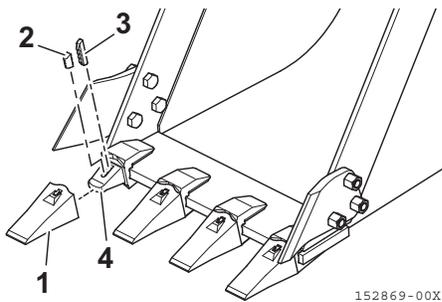
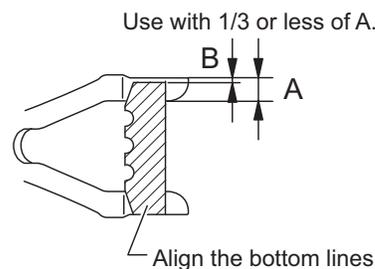

Fig. 8-23
Fig. 8-26
Replace the teeth before the point (Fig. 8-23, 1) is worn to the adapter (Fig. 8-23, 4).
2. Strike out the locking pin (Fig. 8-23, 3) installed on the bucket with a hammer and punch to remove the point (Fig. 8-23, 1).
Do not strike the punch toward the rubber pin lock (Fig. 8-23, 2). Otherwise the rubber pin lock (Fig. 8-23, 2) may be damaged. Strike the tool toward the back of the pin.
3. Remove the rubber pin lock (Fig. 8-23, 2).
4. Check the removed rubber pin lock (Fig. 8-23, 2) and locking pin (Fig. 8-23, 3).
Using the rubber pin lock (Fig. 8-23, 2) and locking pin (Fig. 8-23, 3) in the conditions below may cause the point (Fig. 8-23, 1) to come off during operation. Replace the applicable part with a new one.
- There is a crack in the rubber of the rubber pin lock (Fig. 8-23, 2) and the roller may come off.
- With the lower side of the locking pin (Fig. 8-23, 3) aligned with the point bottom line, the dimension (Fig. 8-26, B) is equal to or more than 1/3 of the dimension (Fig. 8-26, A).
5. Clean the surface of adapter (**Fig. 8-23, 4**) with a tool such as a putty knife to remove the hard mud fixed on it.
6. Push the rubber pin lock (**Fig. 8-23, 2**) into the hole on the adapter (**Fig. 8-23, 4**) by hand or by a hammer.
Do not let the rubber pin lock (Fig. 8-23, 2**) come out of the adapter (**Fig. 8-23, 4**) surface.**
7. Install the point (**Fig. 8-23, 1**) to the adapter (**Fig. 8-23, 4**) and check that the rear surface of the pin hole on the point (**Fig. 8-23, 1**) is almost aligned with the rear surface of the pin hole on the adapter (**Fig. 8-23, 4**) when the point (**Fig. 8-23, 1**) is pushed strongly onto the adapter (**Fig. 8-23, 4**).
8. Insert the locking pin (**Fig. 8-23, 3**) into the pin hole on the point (**Fig. 8-23, 1**) and strike it so that the upper end of the locking pin (**Fig. 8-23, 3**) will be flush with the surface of the point.
- Replace the rubber pin lock (**Fig. 8-23, 2**) and locking pin (**Fig. 8-23, 3**) with new ones at the same time when replacing the point (**Fig. 8-23, 1**). This prevents the point (**Fig. 8-23, 1**) from coming off.